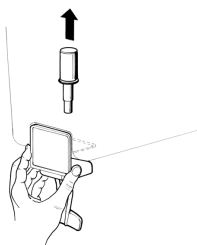

figure 4
- 6 **Gravity faucet:** extract the piston and then remove the dispensing handle (see figure 4).